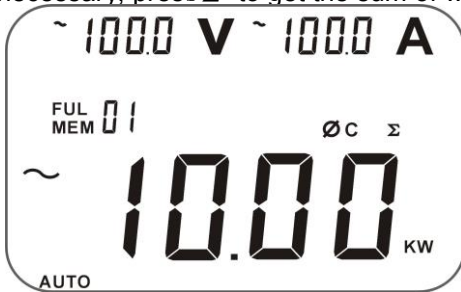

Figure14
- If necessary, press Σ to get the sum of watts as figure 14